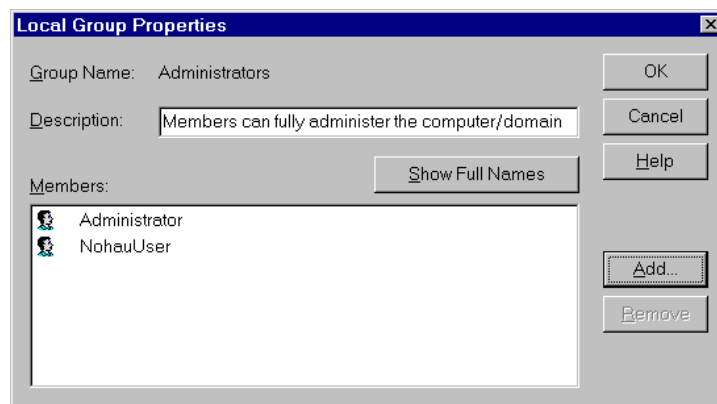

Figure 7. Local Group Properties Dialog Box for Windows NT
3. In the bottom half of the dialog box, double-click **Administrators**. The **Local Group Properties** dialog box opens displaying a list of login names (Figure 7).